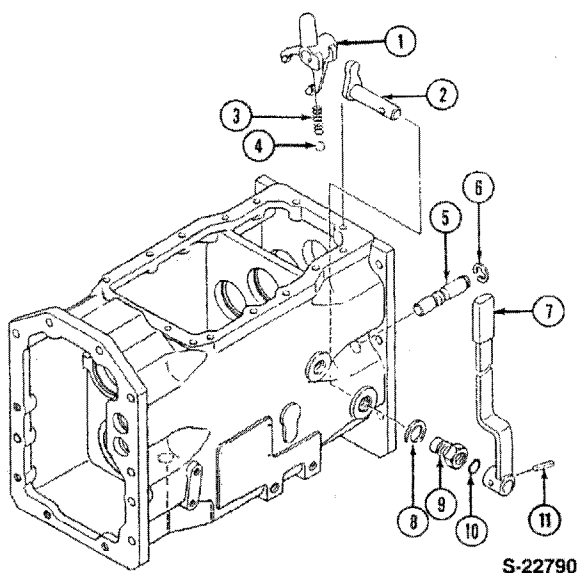

Figure 92
Reference — Figure 92
1. Drive the roll pin (11), Figure 92, out of the lever (7) and remove the lever.
2. Remove the shift rod (5) from the rear.
3. Install the shift rod and fork with the detent spring and ball as shown, Figure 92.